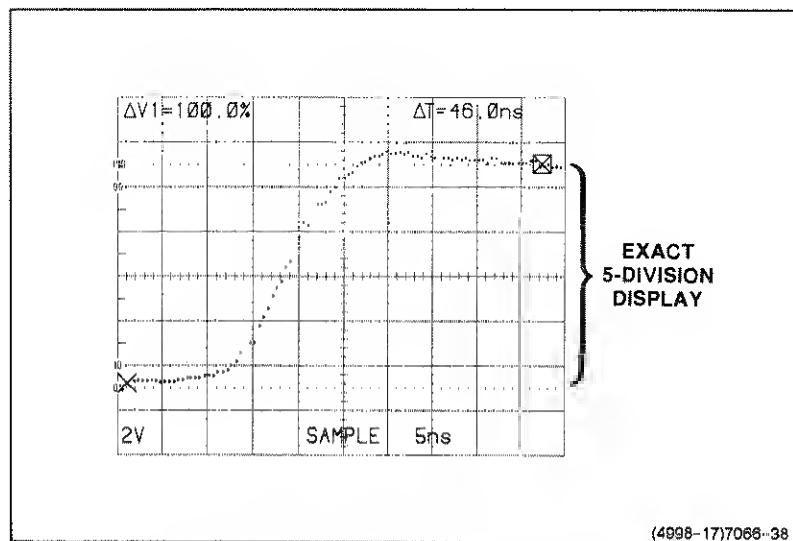

Figure 6-17. Rise-time setup, five-division display.
4. Set the SEC/DIV switch for a single-event display, with the rise time spread horizontally as much as possible within the viewing area. The waveform's maximum and minimum levels must still be visible (see Figure 6-17).